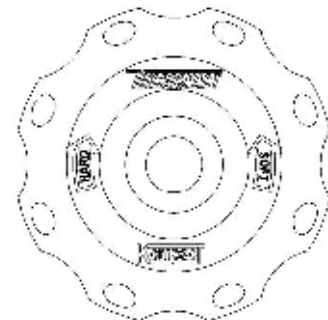

Figure 2 Top View of Cap showing Hard, Soft adjustments
- Adjustment to the KOMPACT SS BOV is made by rotating the cap (see figure 2), to increase spring tension rotate in the direction of hard, marked on the top of the cap.
- Remove the cap of the KOMPACT SS BOV by rotating in an anti-clockwise direction (see figure 2) – **CAUTION** The cap is under spring tension, wear safety glasses and remove with care!